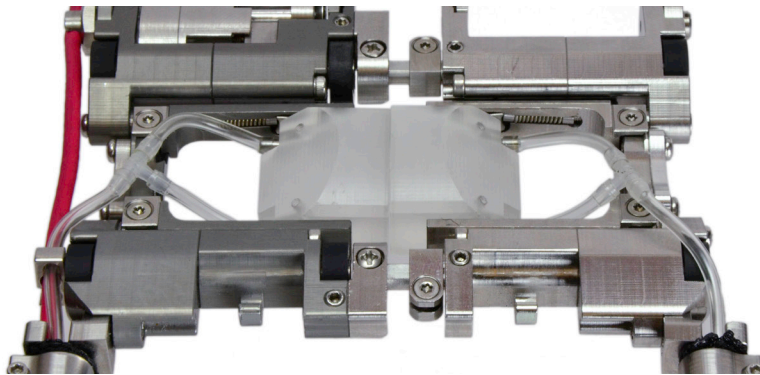

Figure 44
- g. Slide the indicator to the non-encoded side of the scanner (Figure 44).